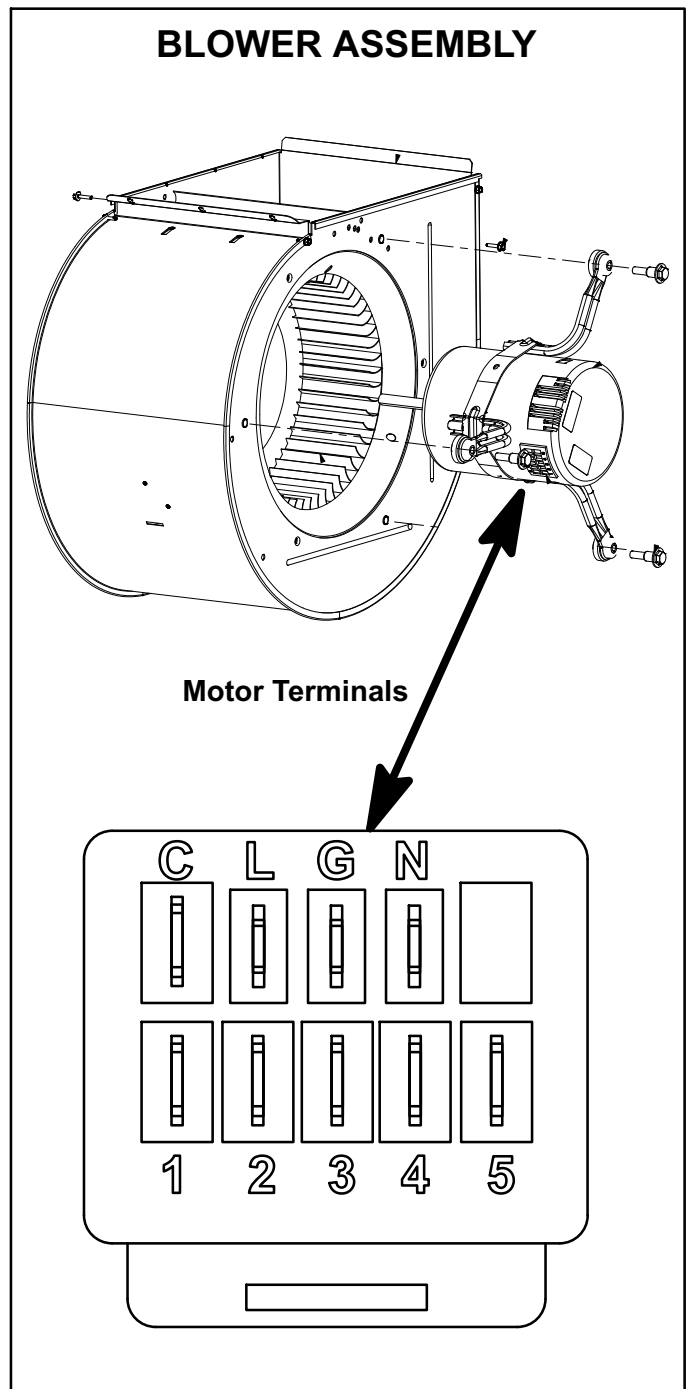

FIGURE 4
- 3- Check for 230 volts across terminals "L" and "N" on the input plug. See figure 4. If voltage is present continue. If voltage is not present problem may be up stream of the motor input plug.
- 4- Check for 24 volts across terminals "C" and speed tap used (1, 2, 3, 4 or 5) on the input plug. See figure 4. If 24 volts is not present problem may be up stream of the motor input plug.